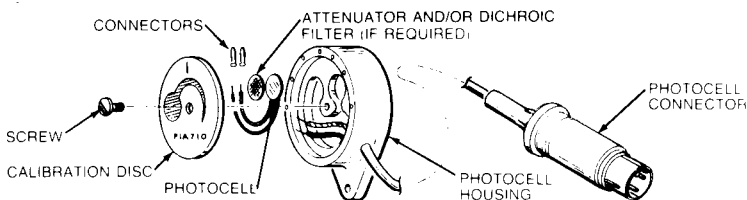

Figure 8. Exploded View Of Photocell
- With very high light intensity turning the Disc all the way to the left may still give you too short an exposure. Remove the Disc altogether and install the little Attenuator filter over the sensor cavity. Reassemble and calibrate again. (Figure 8.)